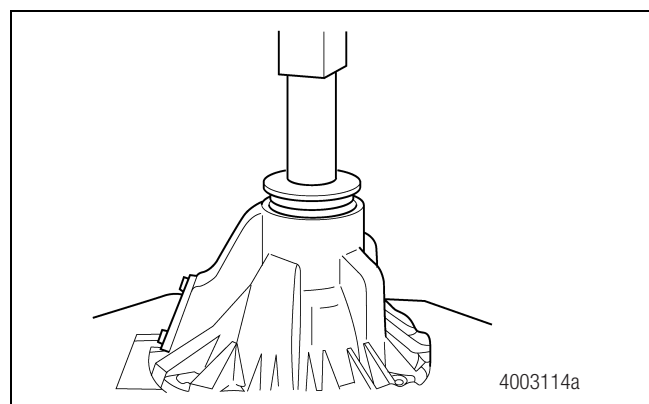

Figure 4.33
6. Press until the metal flange of the seal is seated to the top of the bore. Figure 4.33.